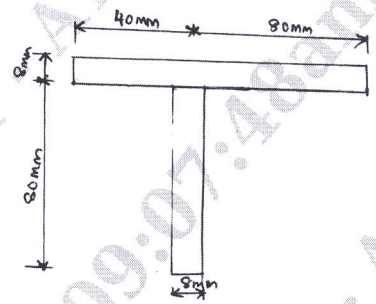

Fig.Q.2(a)
- 2 a. A beam having the cross section as shown in Fig.Q.2(a) is subjected to bending moment of 1500Nm in a vertical plane, calculate the maximum direct stress stating at which point it acts. (10 Marks)